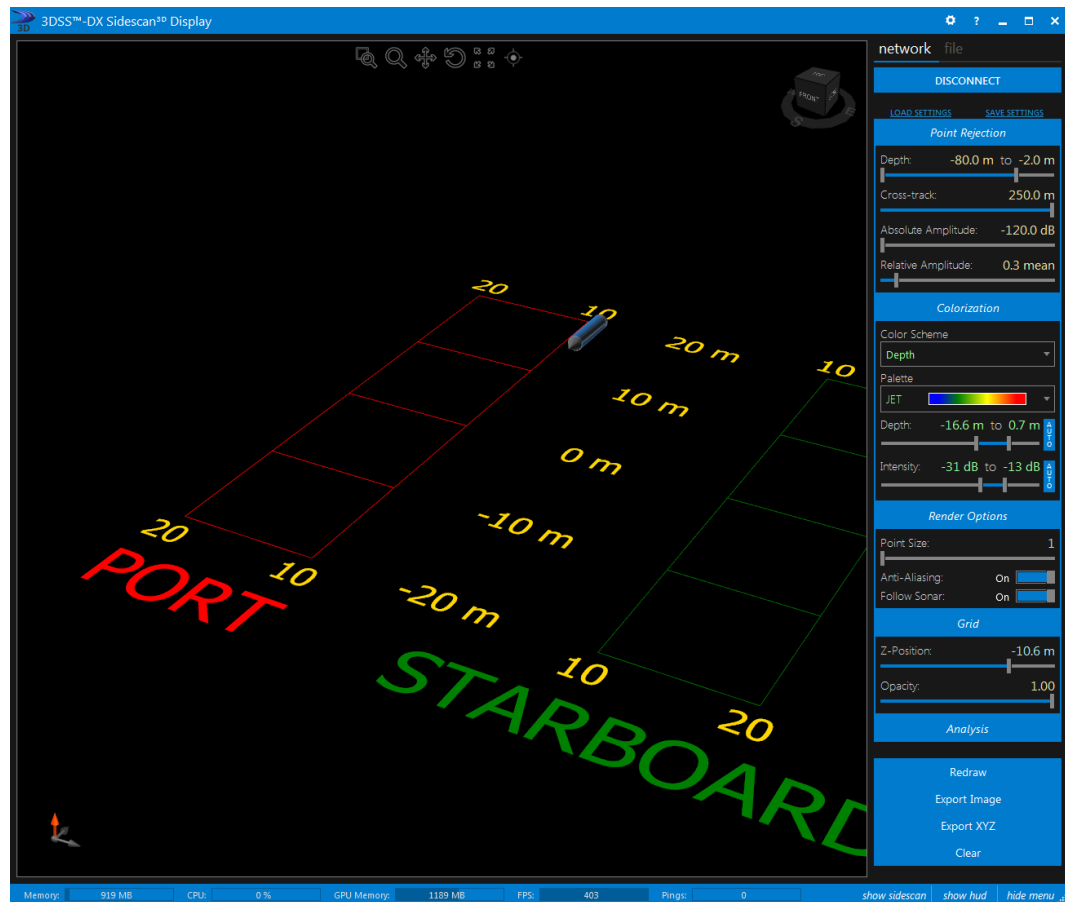

FIGURE 25. SOFTWARE QUICK START SIDESCAN3D DISPLAY SETTINGS.
2. On the sidebar menu under the heading **RENDER OPTIONS** click on **FOLLOW SONAR** and **ANTI-ALIASING** to turn both switches to the on position. Set the other parameters on the sidebar menu as shown in Figure 25. Note that slider settings are changed by clicking and dragging the slider and it is only necessary to set the parameters close to the settings in Figure 25.